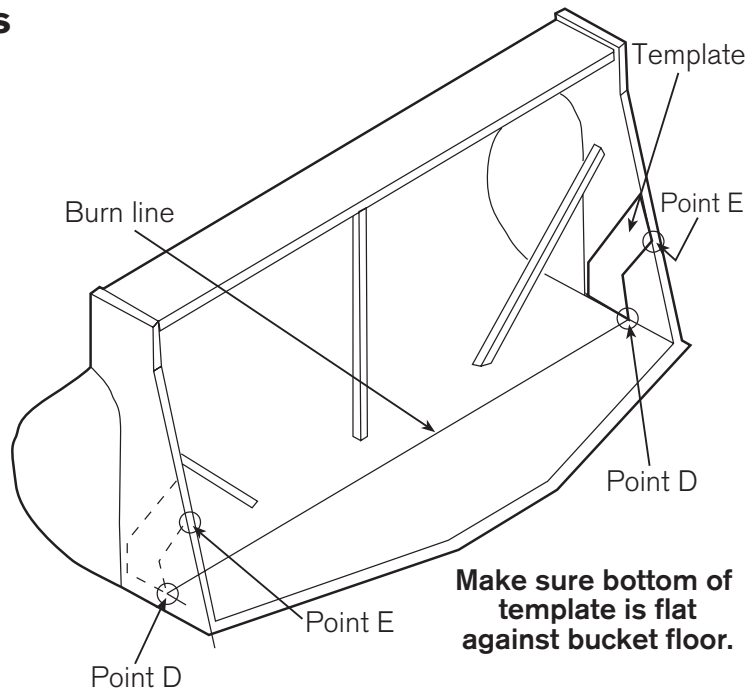

Figure 2 Establishing burn lines.
1. Position the Loadmaster Lip template against the bucket sides so that template-Point D aligns with bucket-Points D (determined in Step 5). If template-Point E does not align with the bucket sides, the template may be moved within the following limits until it does, *Figure 2*.